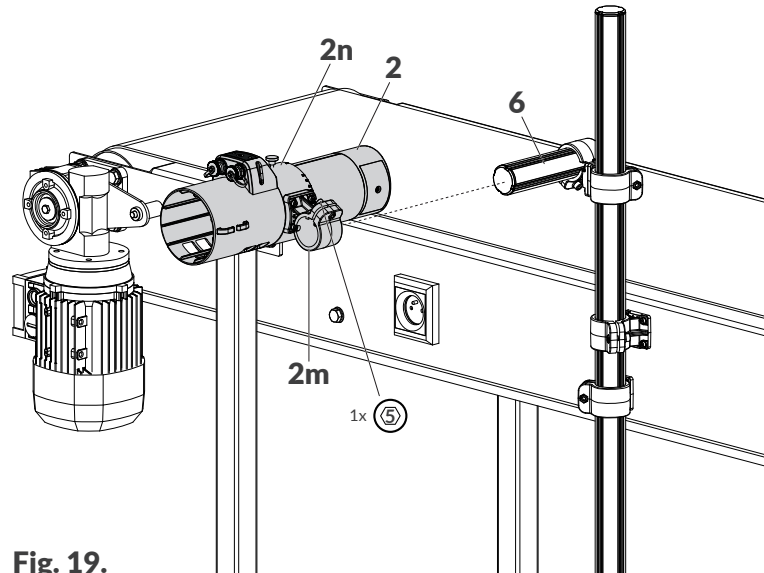

Fig. 19.
6. Fasten integrated printhead **2** to support beam **6** (see Fig. 19). Use the #5 angle hex key to tighten the screw in holder **2m**, clamping the holder to integrated printhead support beam **6**. Change the degree of turning of the integrated printhead in holder **2n**, if need be.